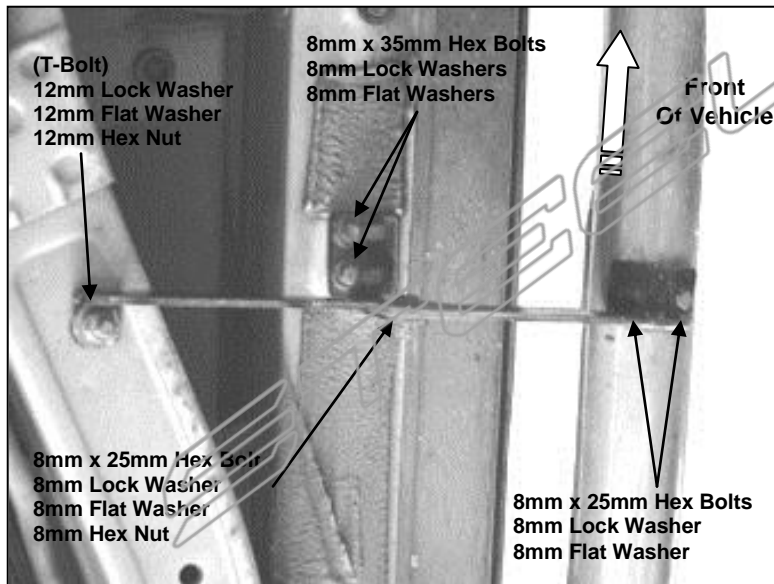

Figure 3
- Position driver Sidebar onto Mounting Bracket and attach it using the included (4) 8mm x 25mm Hex Head Bolts, (4) 8mm Lock Washers, and (4) 8mm Flat Washers (**Figure 3 & 4**).